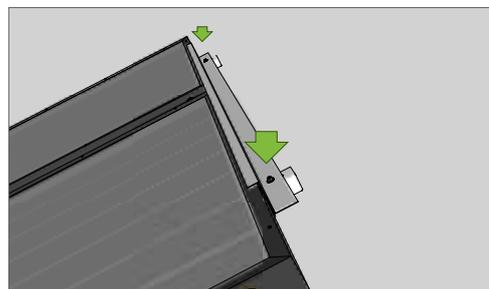

Fig 8
- Place 2nd Z-frame support rail over the top of the panel/s & securely fasten to the side section through the upper hole using the supplied M8 bolts, washers & nuts (Fig 8).